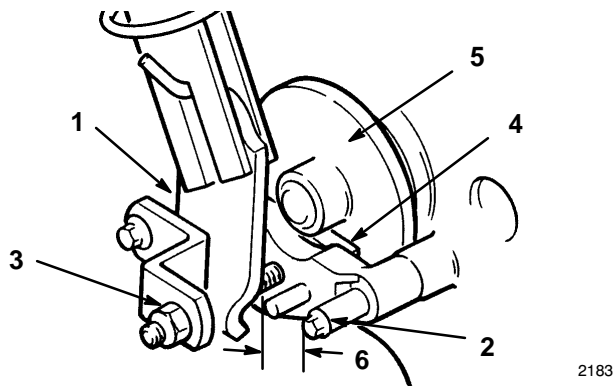

Figure 22
2. Measure distance between disc brake actuating arm and stop pin on axle bracket assembly (Fig. 22). Distance should be less than 1/4 inch (6 mm).
3. If distance is greater than 1/4 inch (6 mm), tighten locknut to decrease distance between actuating arm and stop pin (Fig. 22).
4. With the brake lever OFF, check clearance between brake pads and disc with a feeler gauge (Fig. 22). Proper clearance is approximately .010 inch (.25 mm).